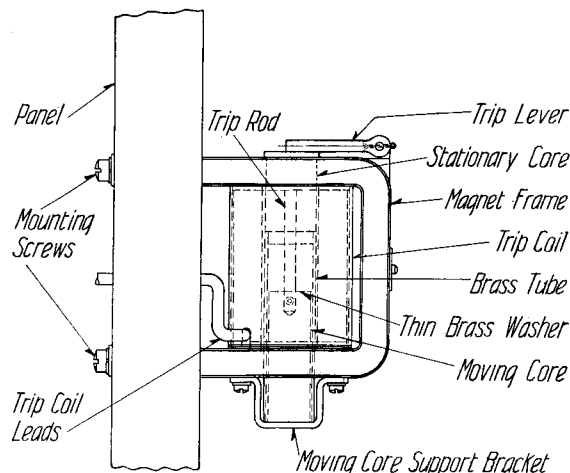

FIG. 13—SHUNT TRIP ATTACHMENT
**Shunt Trip Attachment (Figure 13)**—The shunt trip attachment is for use in tripping a circuit-breaker by means of a push button from some distant point or is sometimes used with circuit closing relays for tripping the breaker.